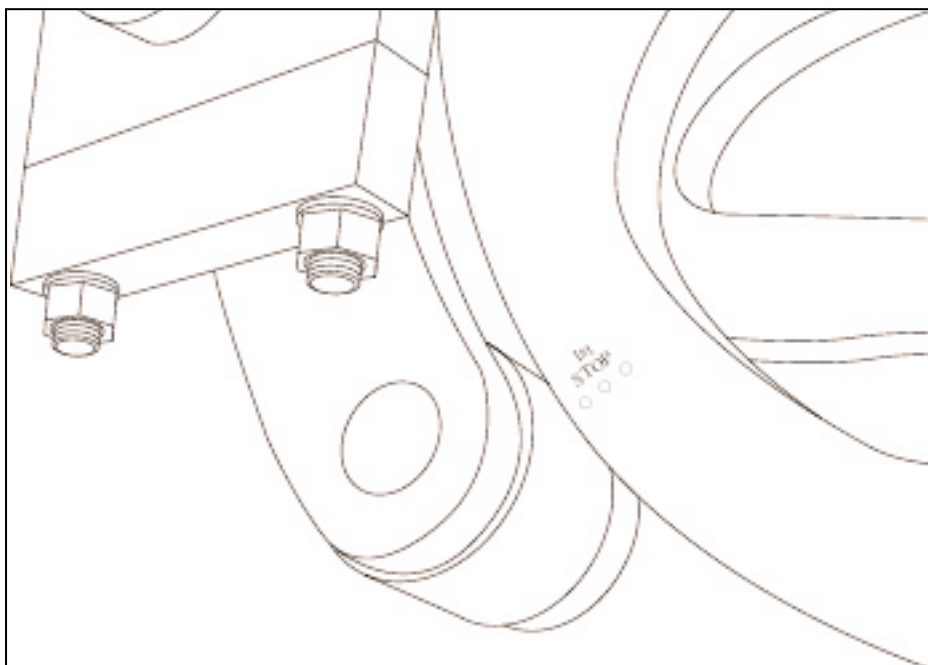

Figure 4.47 "FIRST STOP" (R.H. side of machine).
4.4.1 Run machine to "first stop" (see figure 4.47)